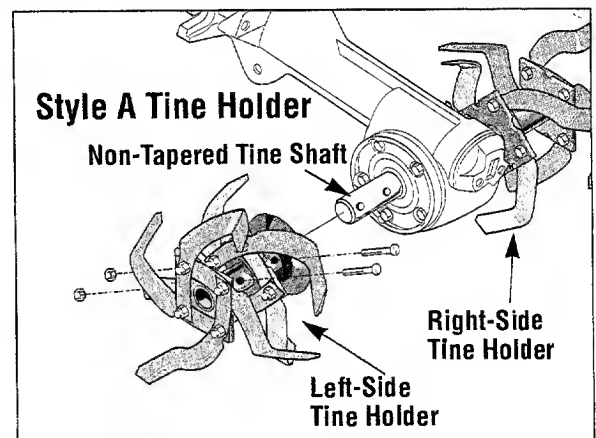

Figure 5-33A: Style “A” Tine Holders— Left and right-side tine holders are secured to the tine shaft with two bolts and two nuts.
The 16 Bolo Tines are mounted eight per side on left-side and right-side tine holders – on either Style A or Style B holders (refer to Figures 5-33A and 5-33B to see which style tine holder you have). Style “A” tine holders are secured to the tine shaft with two bolts and two nuts. Style “B” tine holders are secured with a single end bolt to the left and right sides of the tine shaft. Here’s how to replace the tines and holders as *assemblies*.
3. With Style A holders, remove the two bolts and nuts securing each holder (Fig. 5-33A). With Style B holders, remove the single bolt (along with the washers) from